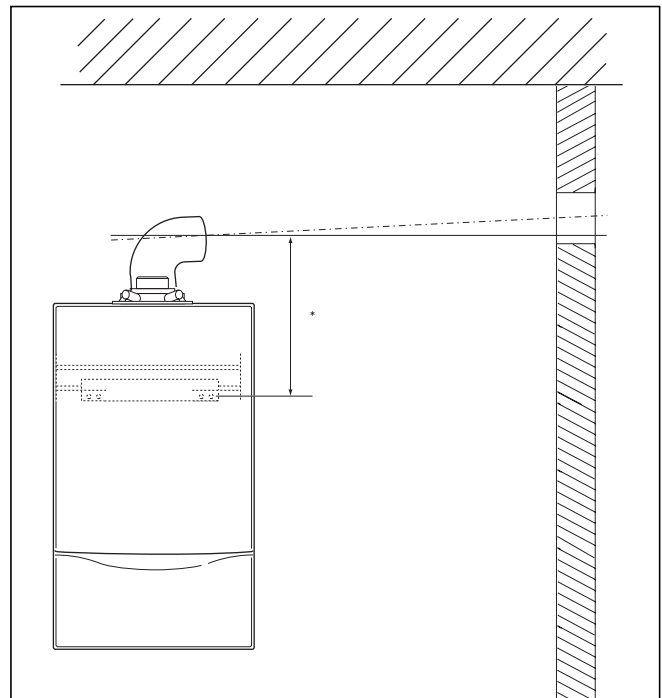

**Fig. 3.7 Installation template**
- Identify the correct measurement as shown in fig. 3.7, carefully measure the distance from the bottom centre of the boiler hanging bracket (centreline of the two lower hanging bracket fixing holes). This gives the position of the centreline of the 127 mm flue elbow and adaptor when installed.